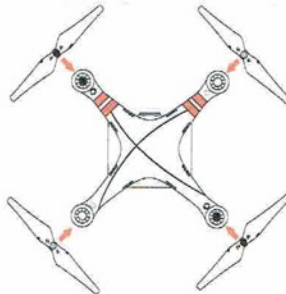

Figure 2-2
- ( Figure 2-2 ) Prepare the two grey nut propellers and two black nut propellers. Make sure to match the black nut propellers with the correctly marked black dot motors. Tighten the propellers according to the fastening instructions.